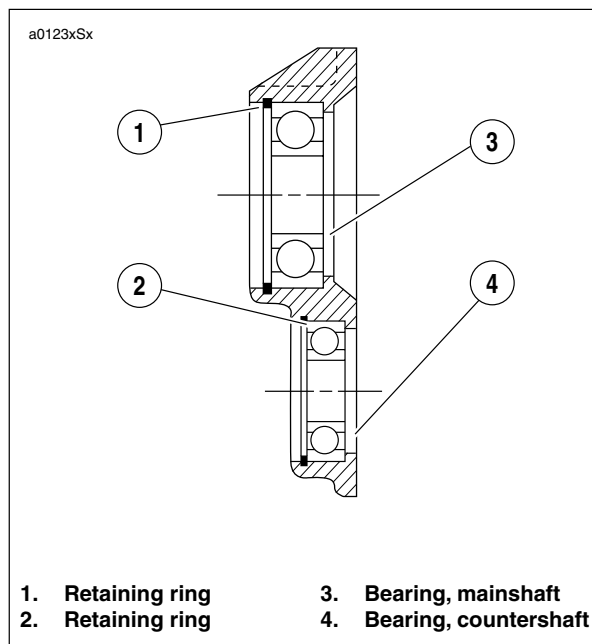

Figure 6-85. Ball Bearing Assembly
5. See Figure 6-85. If bearing replacement is required, remove retaining rings (1, 2) using snap ring pliers (Snap-On Part No. PR-36). Press out bearings (3, 4) from the inside of the crankcase.